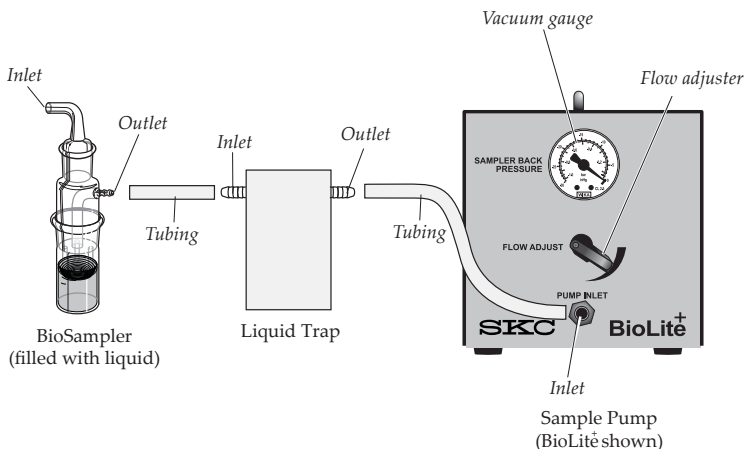

Figure 3. Sampling Train with Liquid Trap
- a. **If using a collection liquid, it is important to use a liquid trap** (Figure 3) to protect the sample pump. Connect the BioSampler outlet (nozzle section) to the inlet of a liquid trap. Connect the outlet of the liquid trap to the sample pump inlet using 3/8-inch ID silicone tubing.